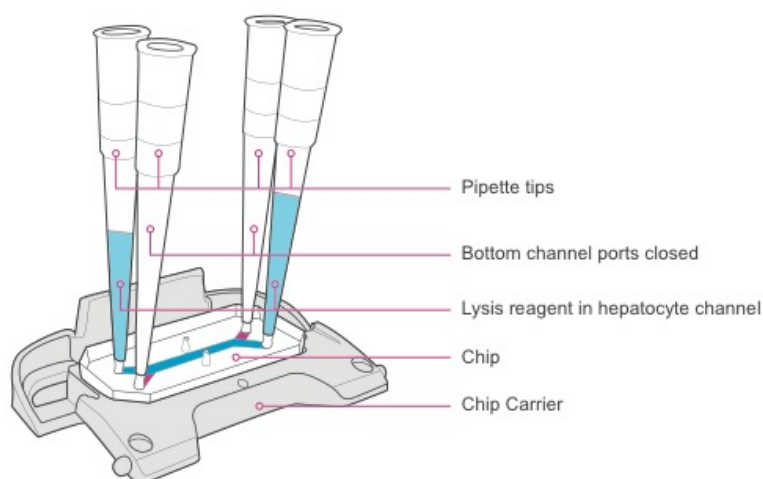

Figure 1
3. Block inlet and outlet of the channel opposite the channel of interest with empty 200 µL tips. The channel of interest is the channel that contains cells from which cells are being lysed. (For example, refer to Figure 1 below)